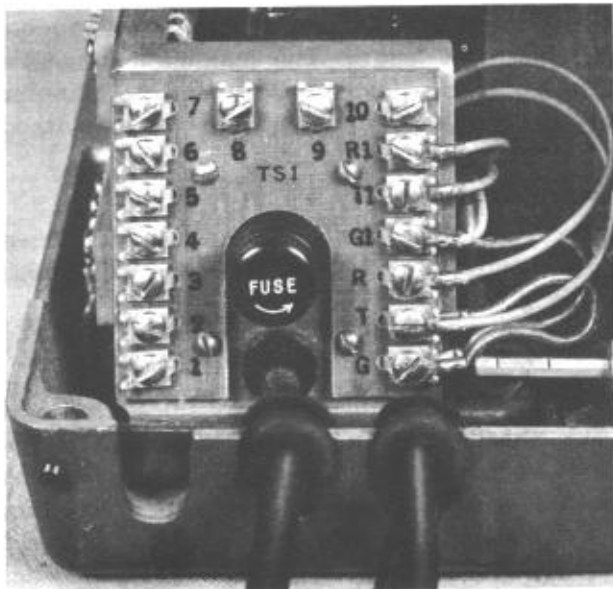

Fig. 7 — Early-type Set Showing TS1 Terminal Strip with Mounting Cords Terminated
1. Insert the telephone set mounting cord through the rubber grommet and Tinnerman cord clamp, and terminate on answering set terminal strip TS1 as shown in Part 8 of this practice (see Fig. 7 and 8).
2. Insert a suitable mounting cord (D3AY or equivalent) through the rubber grommet and Tinnerman cord clamp, and terminate on the connecting block or 531C subscriber set and terminal strip TS1 as shown in Part 8 (see Fig. 7 and 8).
4.06 Place grommets in slots as shown in Fig. 7 and 9 and replace cover, knobs, and buttons of 2A telephone answering set.
5.03 A fuse (AGC, 1 ampere 250 volts) is provided as protection (see Fig. 7). If the Bell System medallion is not illuminated when the set is turned on, this fuse should be checked and replaced if found operated.